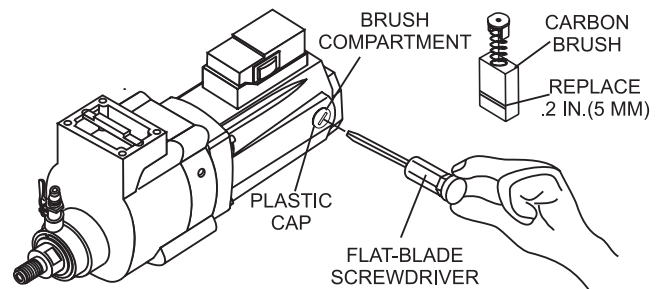

Figure 24. Carbon Brush Replacement
1. Using a flatblade screw driver unscrew the plastic cap as shown in Figure 24 to gain access to the carbon brushes. There is a plastic cap on each side of the drill motor.